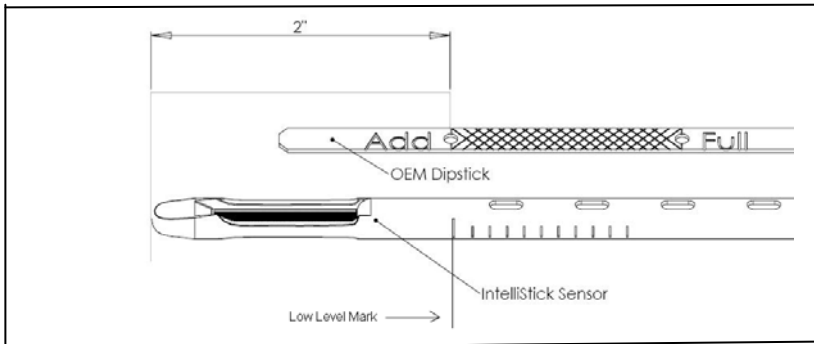
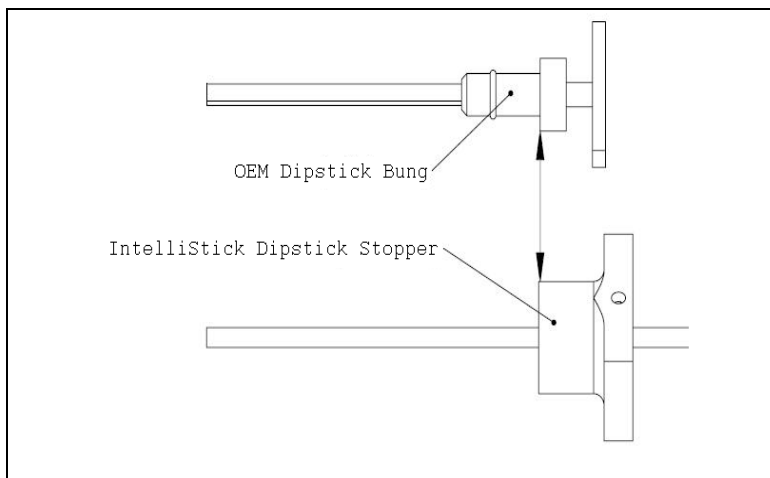

Figure 5 Low Mark Alignment
Figure 6 Stopper Alignment
1. Carefully line up the LOW mark of the IntelliStick probe with the LOW mark of the original OEM dipstick (Figure 5). Straighten the IntelliStick wire and move the stopper along the cable to line it up with the same stop on the original dipstick (Figure 6). Secure the stopper to the cable by tightening the set screw to maintain the alignment. DO NOT over-tighten the set screw to avoid damaging the cable.